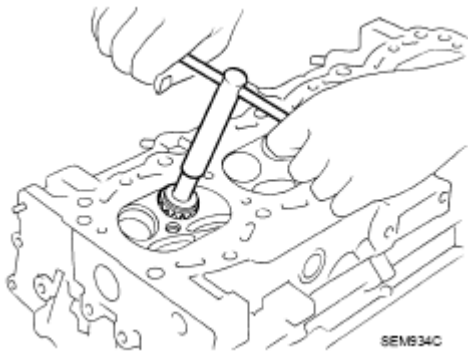

Fig. 212: Grinding Valve Seat
- f. Check again for normal contact. Refer to **Fig. 212**.
- b. Install with the valve oil seal drift [SST: KV10115600 (J-38958)] (A) to match dimension in the figure.